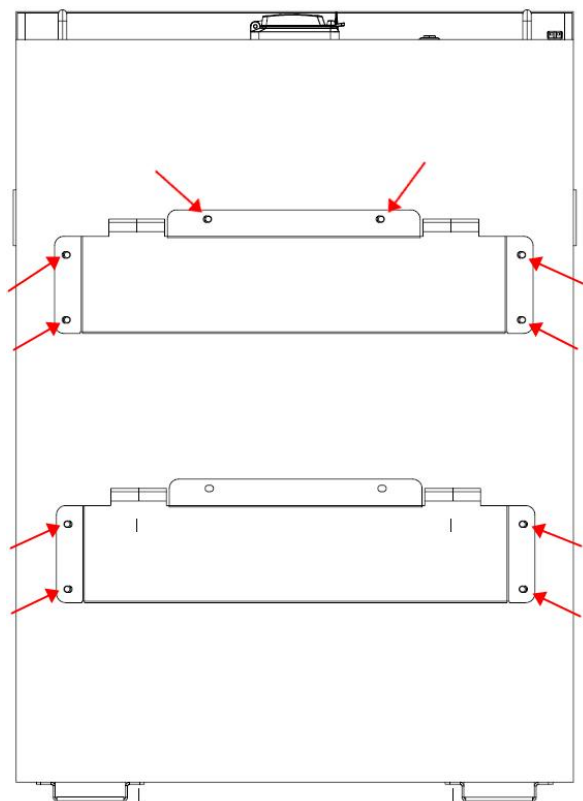
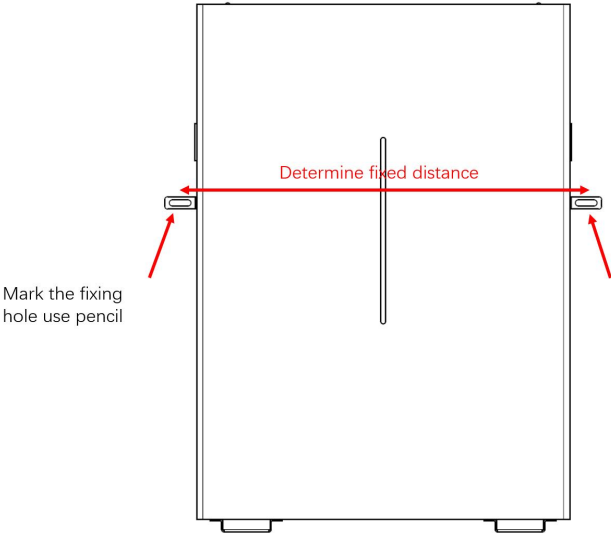

Figure 5-2
Figure 5-5
d) Use the 10 screws of M6 to fix the backplane to the back of the battery as shown in Figure 5-2.
b) Stand the battery on the side of the wall, mark the location of the fixing hole, Choose the recommend drill head (as shown in below picture) to drill 2 holes on the wall,100-110mm deep, as shown in Figure 5-2 and Figure 5-5.
c) Use a proper hammer to fix the battery to the wall, fit the expansion bolt into the holes, as shown in Figure 5-2.